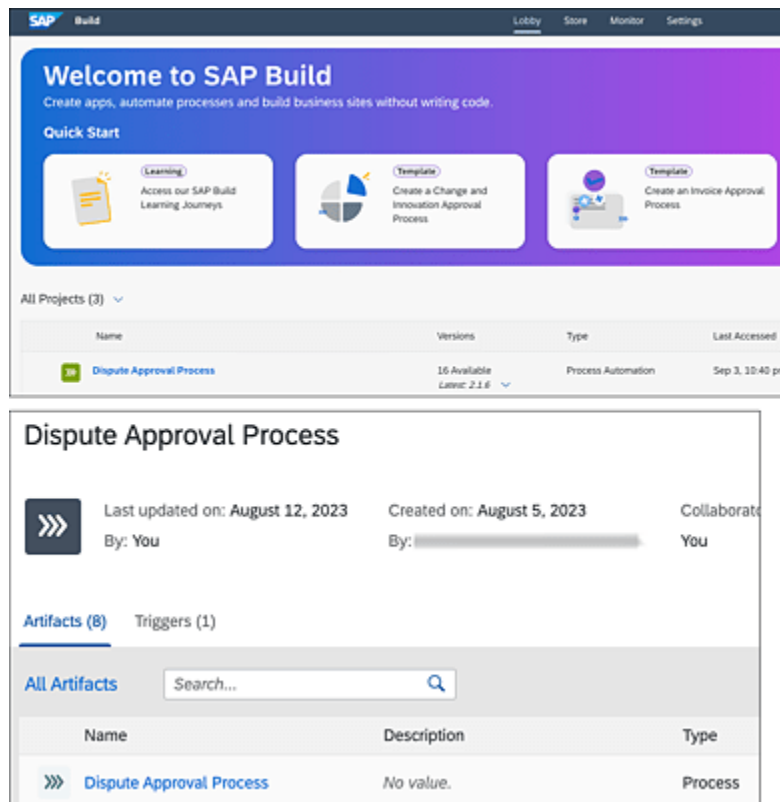

Figure 19.1 Opening the Process in Process Builder
1. In the process builder, open the process, as shown in Figure 19.1.